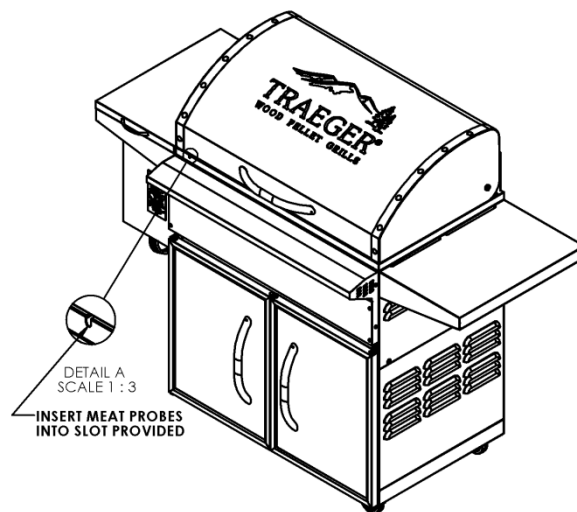

Figure 4-2
- 2) Then insert probes into the grill through the access slot located on the front left side of the grill body as shown in figure 4-2.